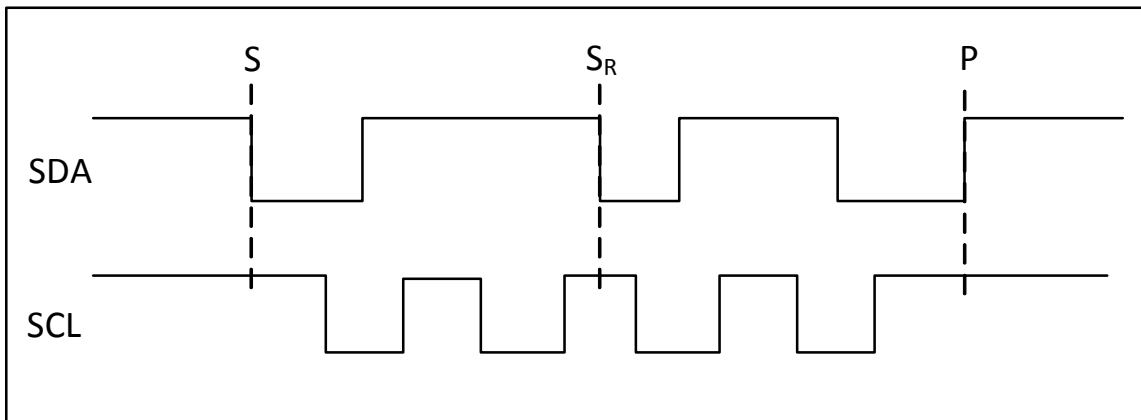
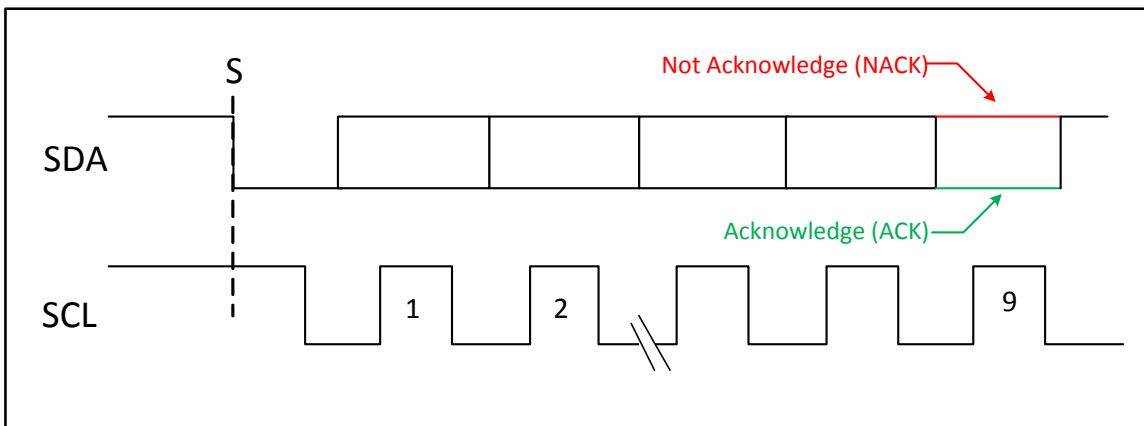

Figure 8. Start and Stop Conditions
Figure 9. Acknowledge Cycle
The I²C/SMBus serial port is a two-wire serial bus where data line SDA is bidirectional and clock line SCL is unidirectional. Reads and writes to this interface by the master are byte-oriented, with the I²C/SMBus master controlling the serial data rates up to 240 kbps. The SDA and SCL lines must be pulled high through pull-up resistors of 5 kΩ or less. An Si8901 ADC read transaction begins with a START condition (“S” or Repeated START condition “SR”), which is defined as a high-to-low transition on SDA while SCL is high (Figure 8). The master terminates a transmission with a STOP condition (P), defined as a low-to-high transition on SDA while SCL is high. The data on SDA must remain stable during the high period of the SCL clock pulse because such changes in either line will be interpreted as a control command (e.g., S, P SR). SDA and SCL idle in the high state when the bus is not busy. Acknowledge bits (Figure 9) provide detection of successful data transfers, whereas unsuccessful transfers conclude with a not-acknowledge bit (NACK). Both the master and the Si8901 generate ACK and NACK bits. An ACK bit is generated when the receiving device pulls SDA low before the rising edge of the acknowledged related (ninth) SCL pulse and maintains it low during the high period of the clock pulse. A NACK bit is generated when the receiver allows SDA to be pulled high before the rising edge of the acknowledged related SCL pulse and maintains it high during the high period of the clock pulse. An unsuccessful data transfer occurs if a receiving device is busy or if a system fault has occurred. In the event of an unsuccessful data transfer, the bus master attempts communication at a later time. Figure 10A shows the I²C Slave Address Byte and CNFG_0 byte for the Si8901. Figure 10B and Figure 10C show master/Si8901 ADC read transactions for Demand Mode and Burst Mode, respectively.